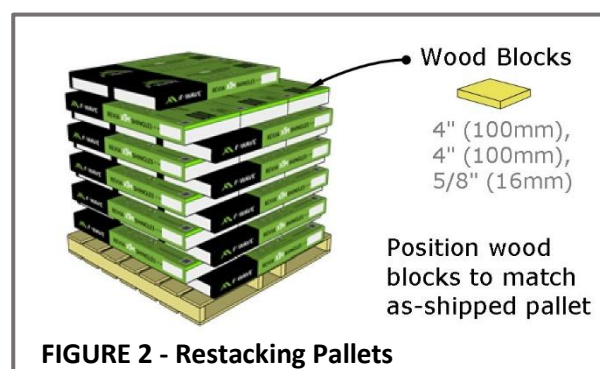

FIGURE 2 - Restacking Pallets
- When restacking pallets, replicate the original as-shipped pallet arrangement, using a safe and stable stack height. Position wood blocks between bundle layers so they lie flat and loads are spread evenly across each bundle. See **Figure 2**.